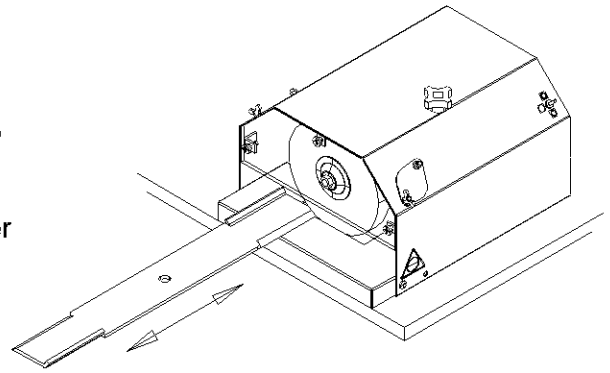

FIG. 3
- A. With the motor off, adjust the depth control knob assembly until the wheel surface is in contact with the rotary mower blade. See FIG. 3. Match to the cutting edge whenever possible. The cutting edge angle should be approximately 30°. If it is not, adjust the depth control until the desired bevel is achieved.
C. Holding the blade, slide the blade in and out under the grinding wheel. See FIG. 3.
Rotary mower cutting blades with the cutting edge at an angle to the body of the blade and "S" style blades must be ground by holding the blade in the same way as shown in FIG. 3 except the blade must be held at an angle to the grinding wheel. This will permit the cutting edge of the blade to be at a right angle to the grinding wheel. By maintaining this angle and sliding the blade in and out under the grinding wheel, a uniform cutting edge will be ground.